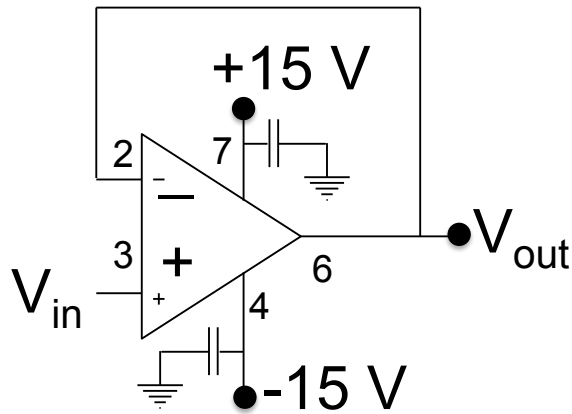
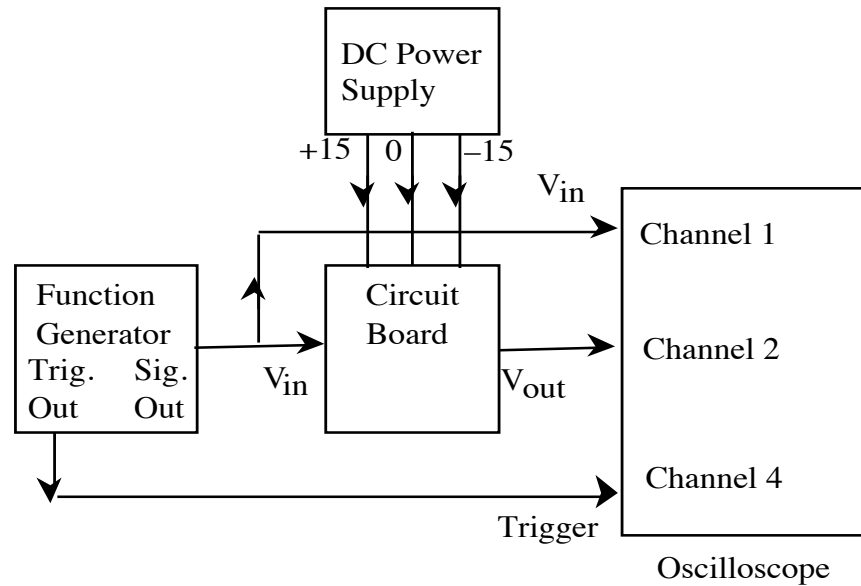

Figure 6. Voltage Follower
Figure 7. Test and measurement setup for op-amp circuits.
Step 3	<p>Low frequency gain and frequency dependence of the gain.</p> <ol style="list-style-type: none">The voltage follower circuit is nearly the same as the test circuit, except that now a signal enters the positive input (Fig. 6). The basic test and measurement setup is shown in Fig. 7.Use the function generator to measure the low frequency gain. What frequency should you use to test the low frequency gain (i.e., what frequency should the signal be below)? Consider the gain-bandwidth product for a unity gain amplifier. What is gain-bandwidth product for this circuit? How did you find the value? What is the predicted gain for the frequency you chose? Measure the low frequency gain G_0 by measuring V_{in} and V_{out} using the scope. Do your measurements agree with your predictions?Now vary the frequency and look for deviation from the performance of an ideal follower model. The measurement at high frequency will depend on many details of your setup and you are unlikely to find a simple RC filter type falloff. Using the 10X scope-probe, measure the gain at every decade in frequency from 10 MHz down to 10 Hz, with (as usual) a few extra points anywhere things are starting to change. Do you find any deviation from unity gain? HINT: Be sure that the output amplitude is below the level affected by the slew rate For help, see H&H p. 192. Plot the low and high frequency data and predicted behavior on your Bode plot from your lab prep. Do you find a simple fall-off as suggested by the theory for the ideal follower ($f_T=f_B$)? If so, find the 3dB frequency. How does your measured 3dB frequency compare to what is expected from the op-amp datasheet?If you observed ideal behavior, you're lucky! At frequencies above a few MHz, the simple model of the frequency response of the op-amp is not accurate. Once you are in this frequency range, many physical details of your circuit and breadboard can have large effects in the circuit (see notes in Step 1(d) above). You could model these effects, but a better procedure to follow is to modify the physical setup. Building reliable circuits at these frequencies typically requires careful attention to grounding and minimization of capacitive and inductive coupling between circuit elements and to ground. Printed circuit boards are much better for high-frequency applications. At lower frequencies, our model of the circuit will work much better.